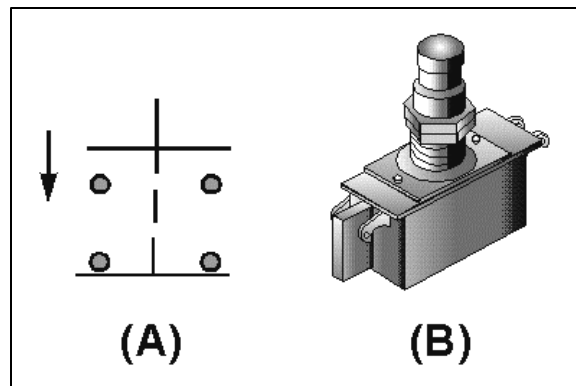

Figure 12: Double-break pushbutton switch.
Switches can also be classified as single-break or double-break switches. This refers to the number of places in which the switch opens or breaks the circuit. All of the switches shown so far have been single-break switches. A double-break switch is shown in Figure 12. The schematic symbol shown in Figure 12(A) shows that this switch breaks the circuit in two places (at both terminals). The upper part of the schematic symbol indicates that these contacts are in the open position and the circuit will close when the switch is acted upon (manually or automatically). The lower symbol shows closed contacts. These contacts will open the circuit when the switch is acted upon.
Figure 12(B) is a picture of the switch. This switch is called a pushbutton switch because it has a button that must be pushed to change the switch contact connections. Notice that the switch has four terminals. The schematic symbol in Figure 12(A) shows that when one set of contacts is open, the other set of contacts is closed. This switch is a double-pole, single-throw, double-break switch.